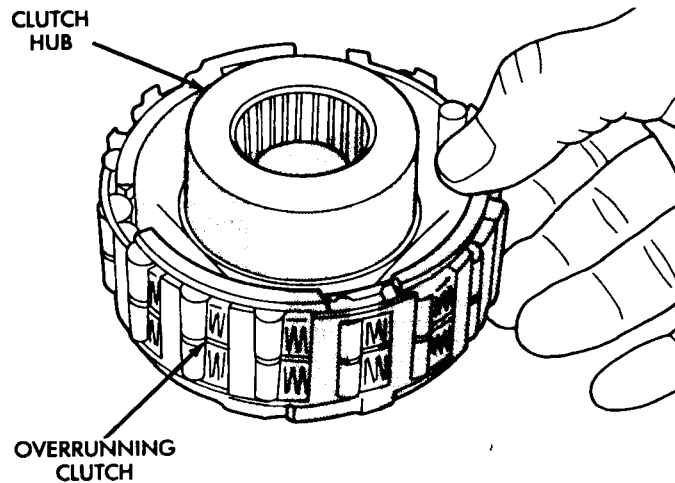

Fig. 48 Assembling Overrunning Clutch And Hub
(9) Install overrunning clutch on hub (Fig. 48). **Note that clutch only fits one way. Shoulder on clutch should seat in small recess at edge of hub.**